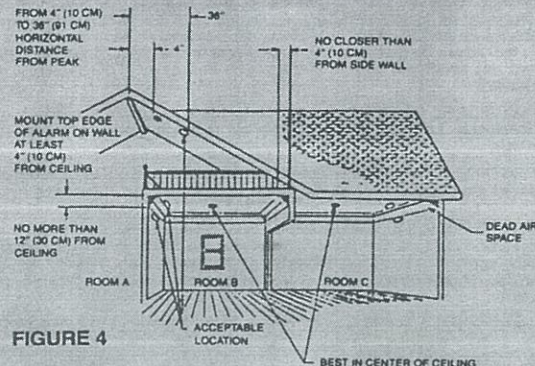

FIGURE 4
- DO INSTALL SMOKE ALARMS ON THE CEILING, AS CLOSE TO THE CENTER OF THE ROOM AS YOU CAN. If this is not practical, mount it on the ceiling, but no closer than 4 inches to any wall or corner. See figure 4.
If ceiling mounting is not practical or possible, and wall mounting is allowed by state and local fire codes, mount your smoke alarm on the wall at least 4, but no more than 12 inches down from the ceiling. See figure 4.
If you have a peaked, sloped, gabled, or cathedral styled ceiling, mount your smoke alarm 3 FEET MEASURED HORIZONTALLY FROM THE HIGHEST POINT ON THE CEILING AS SHOWN IN FIGURE 4.
Do install smoke alarms in both rooms (areas) that are divided by a partial wall extending 8 or more inches down from the ceiling. See smoke alarms located in rooms B and C of figure 4.